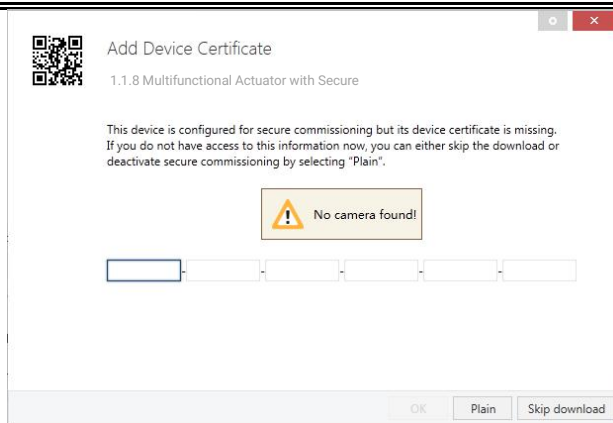

Fig.5.1(2) Add Device Certificate window
- ✧ Alternatively, the certificates of all Secure devices can be entered in the ETS beforehand. This is done on the "Security" tab on the project overview page, as shown in Fig.5.1(3) below.